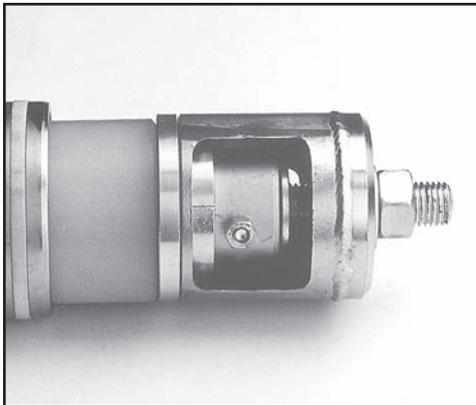

**FIG. 59: REMOVE ELASTIC BLOCK**
6. Pry open the elastic block and take it off the control stud (see Fig. 59).